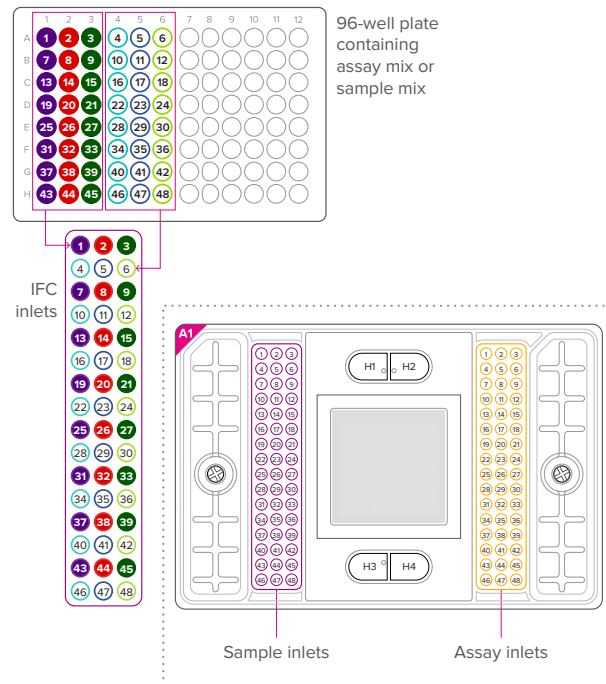

Figure 5. Loading map
- Before pipetting reagents, maintain traceability by noting the orientation of the A1 corner, assay inlets, and sample inlets, as shown in Figure 5.
- 1 Pipet the 20X assay mixes and sample mixes into the LP 48.48 IFC as shown in Figure 5.